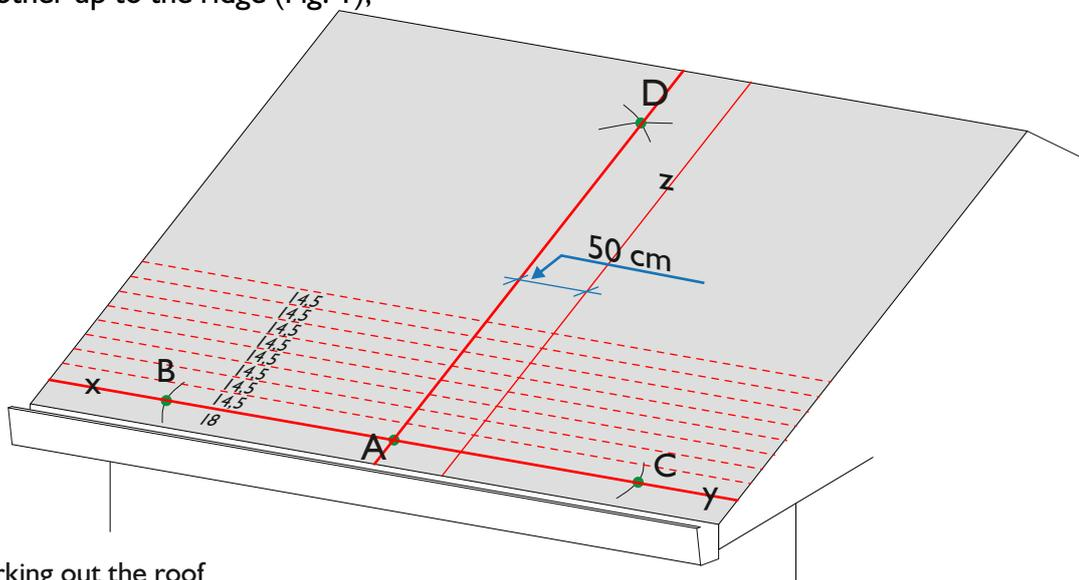

Fig. 1 - Marking out the roof
- Starting from the line xy, mark horizontal and parallel lines to the line xy, at a distance of 14,5 cm from each other up to the ridge (Fig. 1);